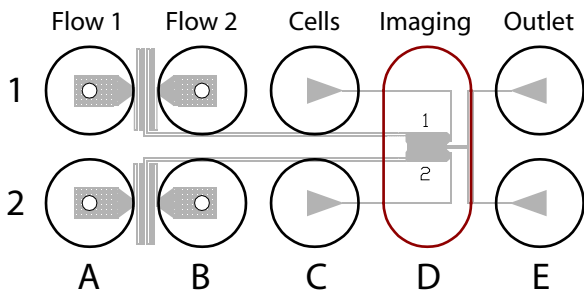

Figure 1 Well Layout
1. The Y2 microfluidic unit consists of 2 independent flow units as depicted in Figure 1. Each unit has 2 inlets, a cell loading, an imaging area, and an outlet. The plate is shipped pre-primed with sterile dl water containing penicillin/streptomycin, which can be replaced with a buffer of choice prior to experiment. Plate performance guaranteed up to the 6 month expiration date.